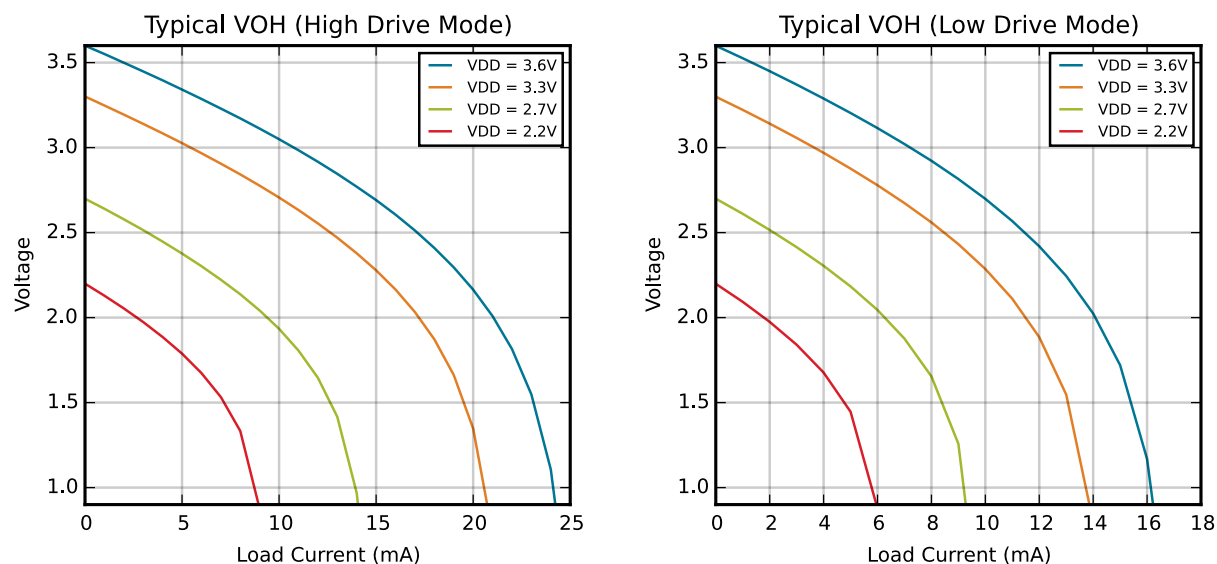
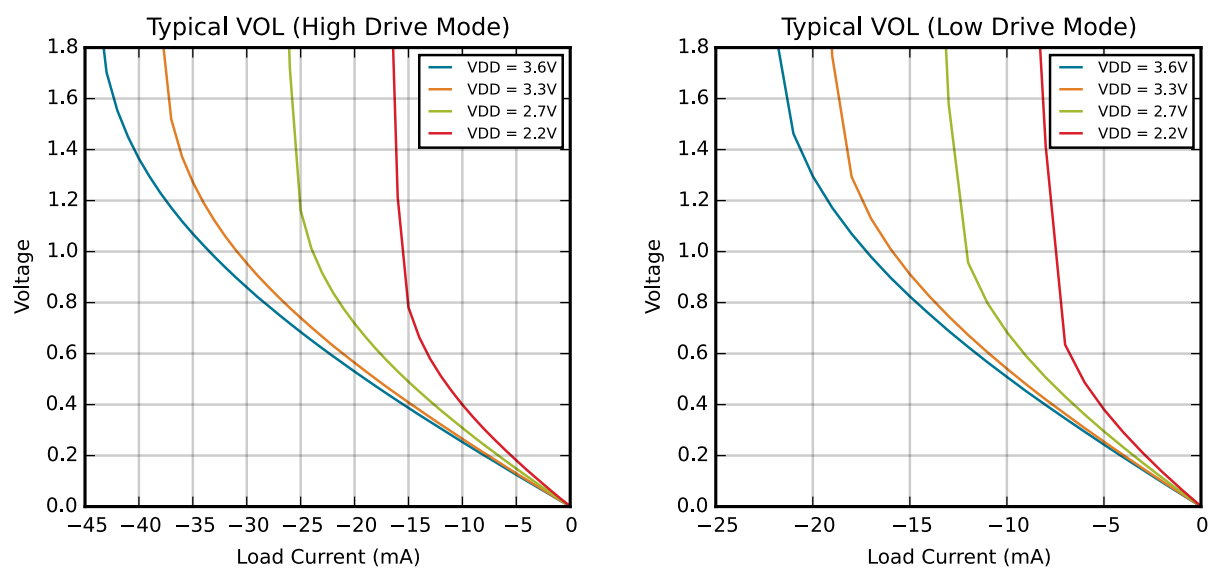

Figure 4.6. Typical V_{OH} Curves
Figure 4.7. Typical V_{OL} Curves
- See Figure 4.6 Typical V_{OH} Curves on page 28 and Figure 4.7 Typical V_{OL} Curves on page 28 for more information.